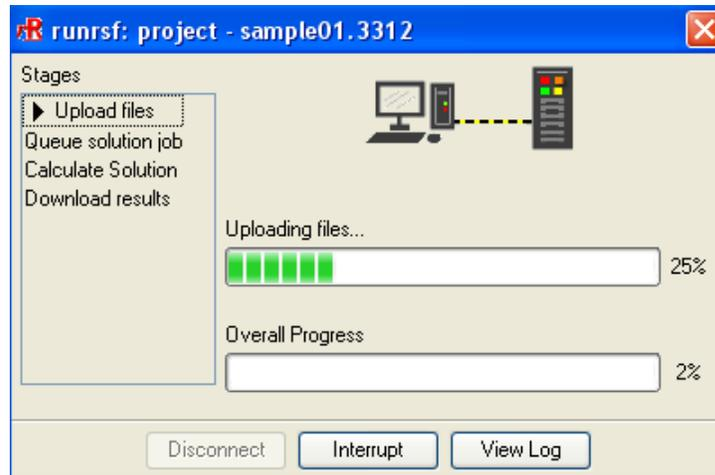

Figure 27.11.14: The runsrf Panel (Update files Stage)
- (b) Click **OK** to close the **Connect to Remote Simulation Facility** panel and begin the remote simulation. Once processing begins, a separate **runrsf** progress panel will open and will monitor the job. The panel will display the four stages of running your project on the RSF: **Upload files**, **Queue solution job**, **Calculate solution**, and **Download results**. As the RSF project runs, the stages will be updated in the panel. These stages are shown in Figures 27.11.14 – 27.11.17.